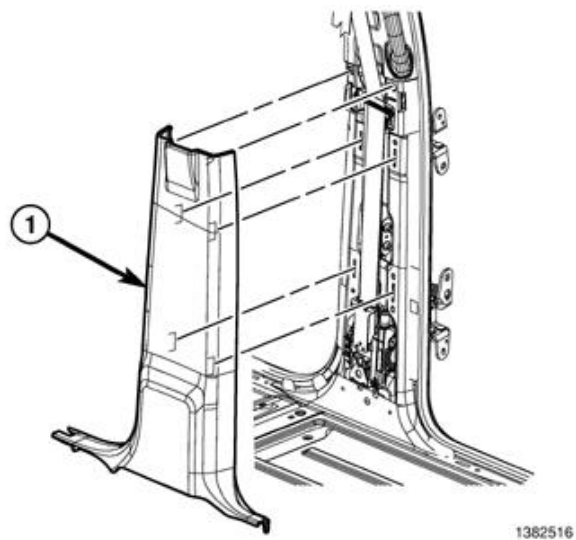

Figure 47 – B-Pillar Lower Trim Panel
7. Release the retaining clips and remove the B-pillar lower trim panel to allow for removal of the B-pillar upper trim panel (Figure 47).